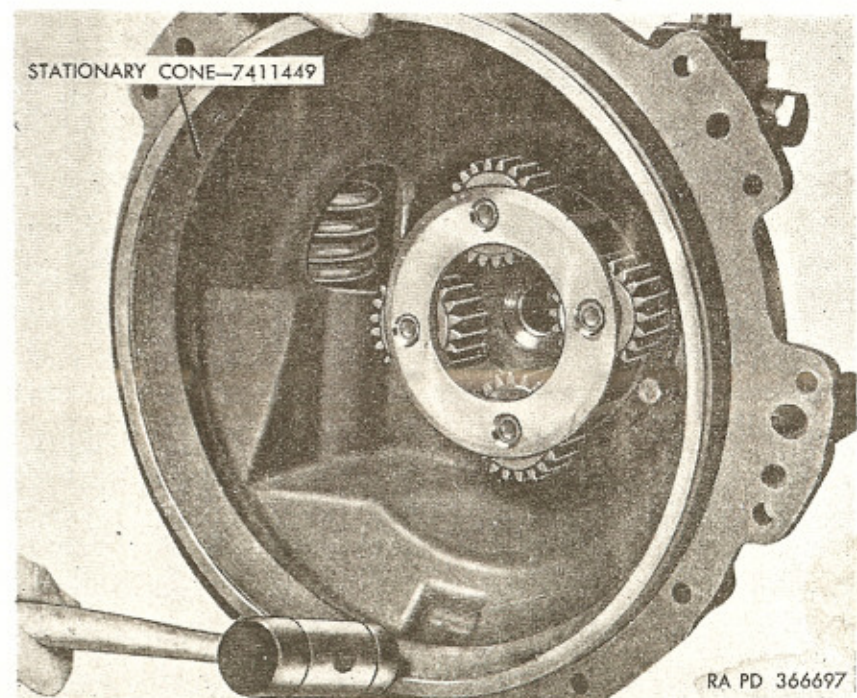

Figure 174. Installing reduction unit stationary cone assembly.
- (1) Aline stationary cone key assembly (DD) with keyway in case.
- (2) Tap stationary cone carefully into place with plastic hammer (fig. 174).